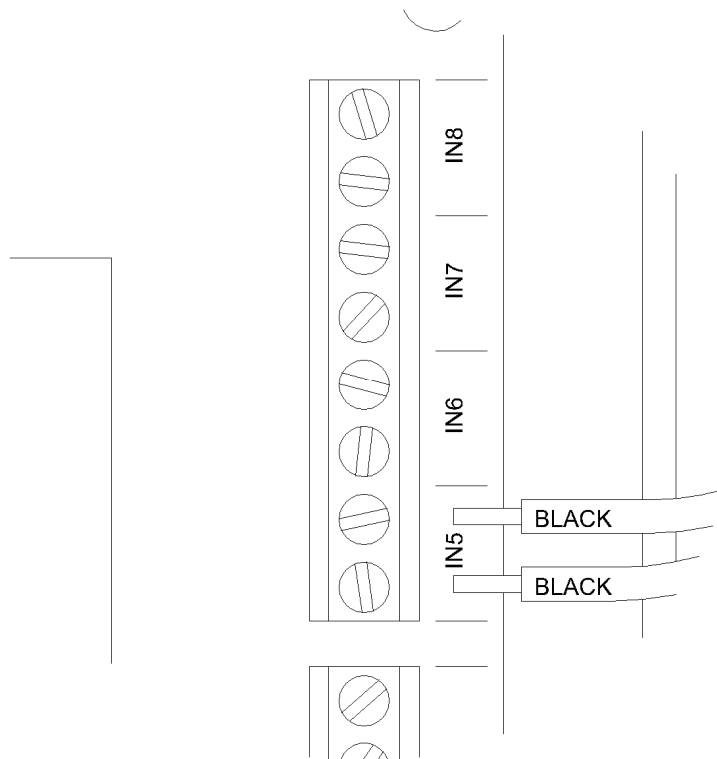

Figure 2
- Connect flow switch into IN5 on the AmeriWater alarm panel. See Figure 2.